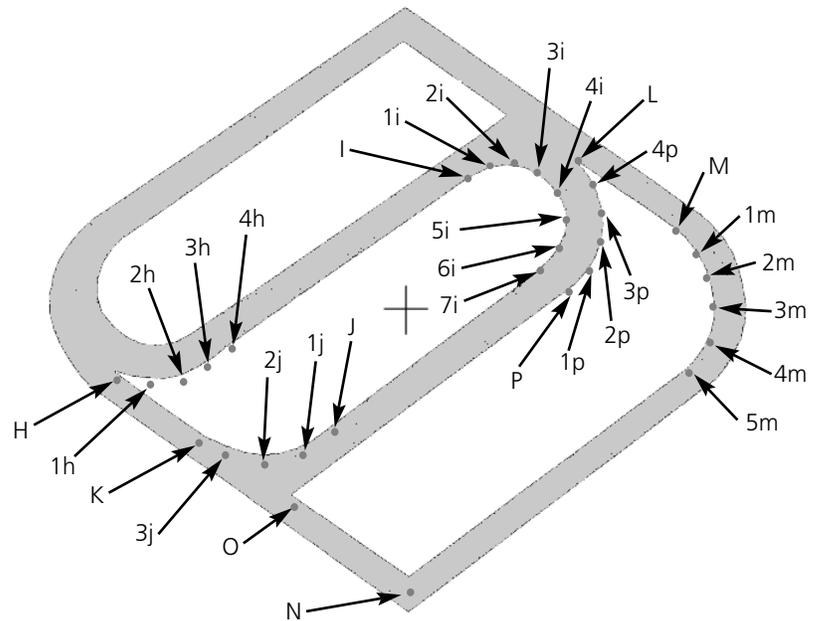

Figure 3-68
1. At this time, continue to follow the points shown in Figure 3-68 in their alpha-numeric order. Enter the Mk1 from H through to the last Mk4 at location 4p near the top point of the lower section of the logo. Enter Mk1s at the capital letter points defining lines, and Mk4s at the numbers associated with lower class letters defining arcs. Remember to enter a Mk1 in the [Enter] box at the end of the third outline (after the Mk1 at point K).